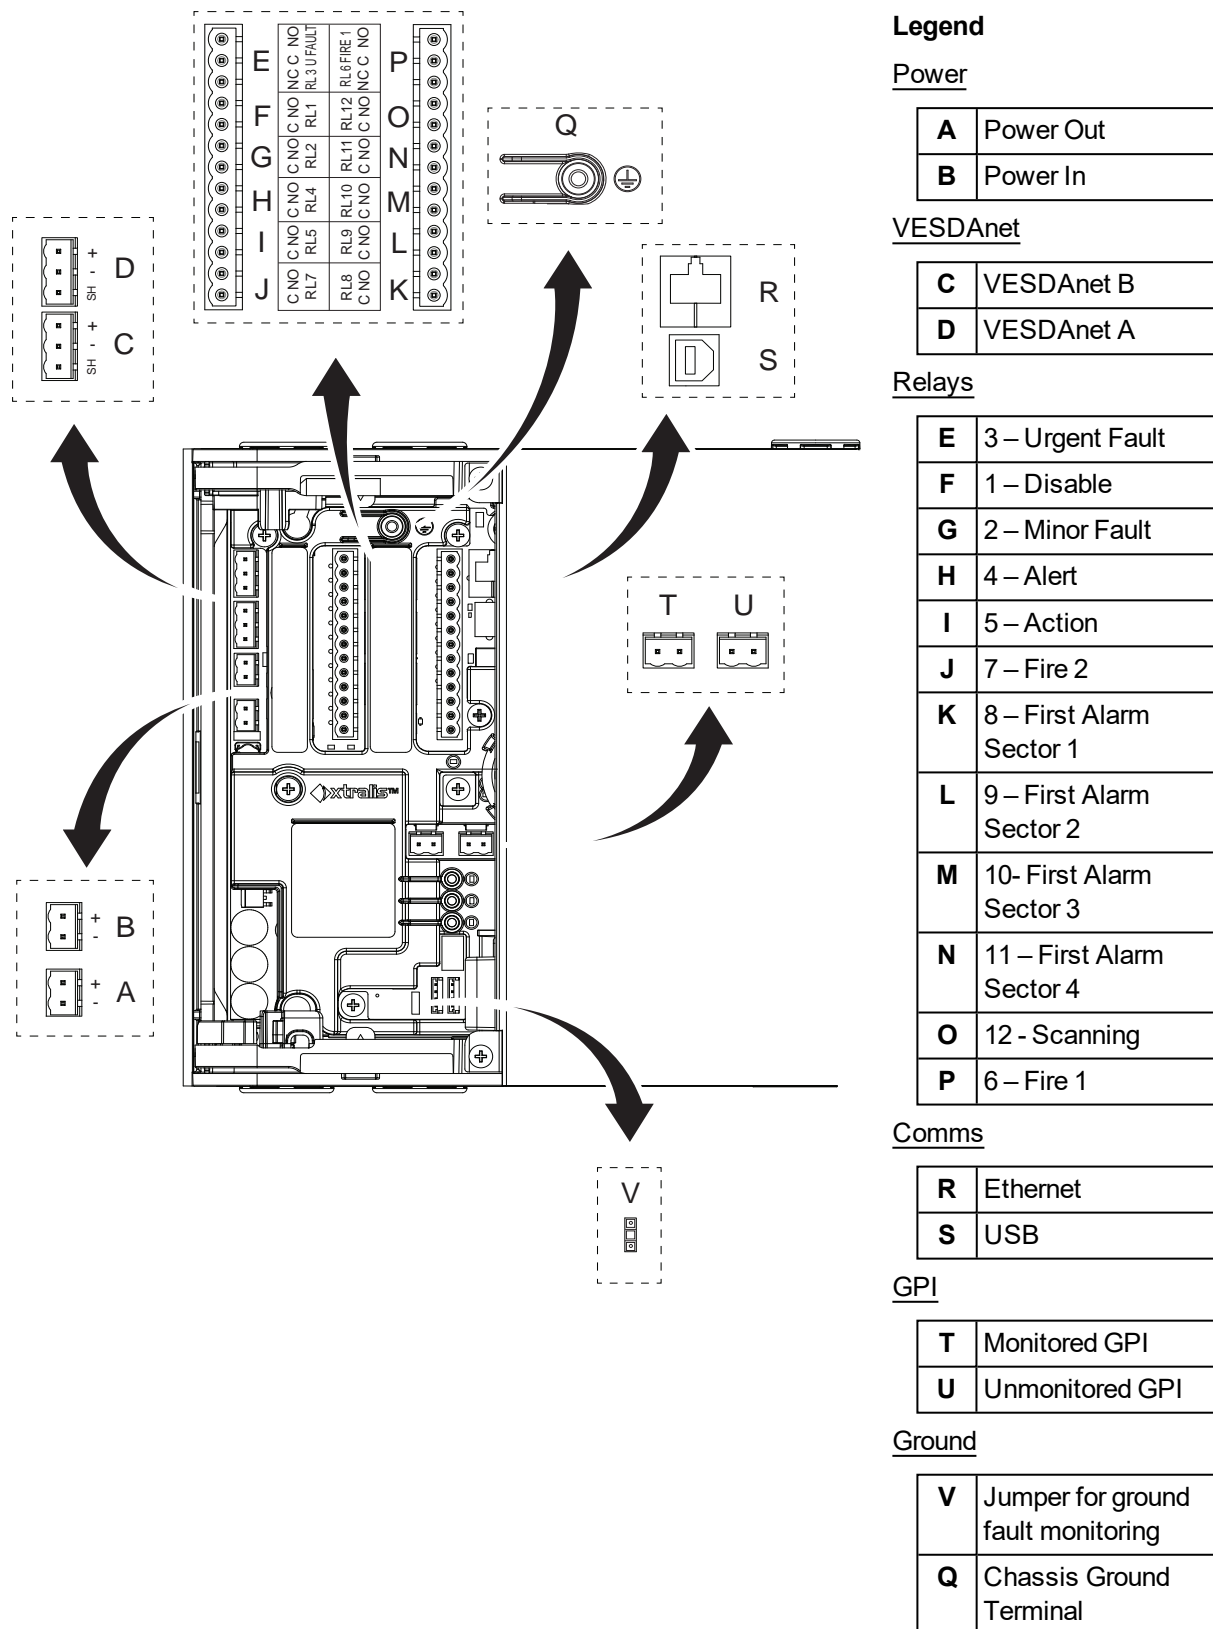

Figure 4-33: Socket Locations
There are two sets of power terminals on the main board (Figure 4-33). Connect a 24 VDC power supply which is compliant with local fire protection codes and standards to the PWR IN socket, and if required loop out to another detector via the PWR OUT socket.
The front door must be opened in order to access the communication ports. Refer to Section 7.2 for information on opening the front door and Figure 4-33 for the physical location of the ports.
- In order for the detector to be able to detect ground faults on the VESDAnet wiring, the Ground Reference Terminal (Figure 4-33) must be connected to the local ground.
In order for VESDAnet ground fault detection to be active connect the Chassis Ground Terminal (Q - Figure 4-33) to the building ground and insert a jumper on the Ground Fault Monitoring Jumper terminals (V - Figure 4-33).